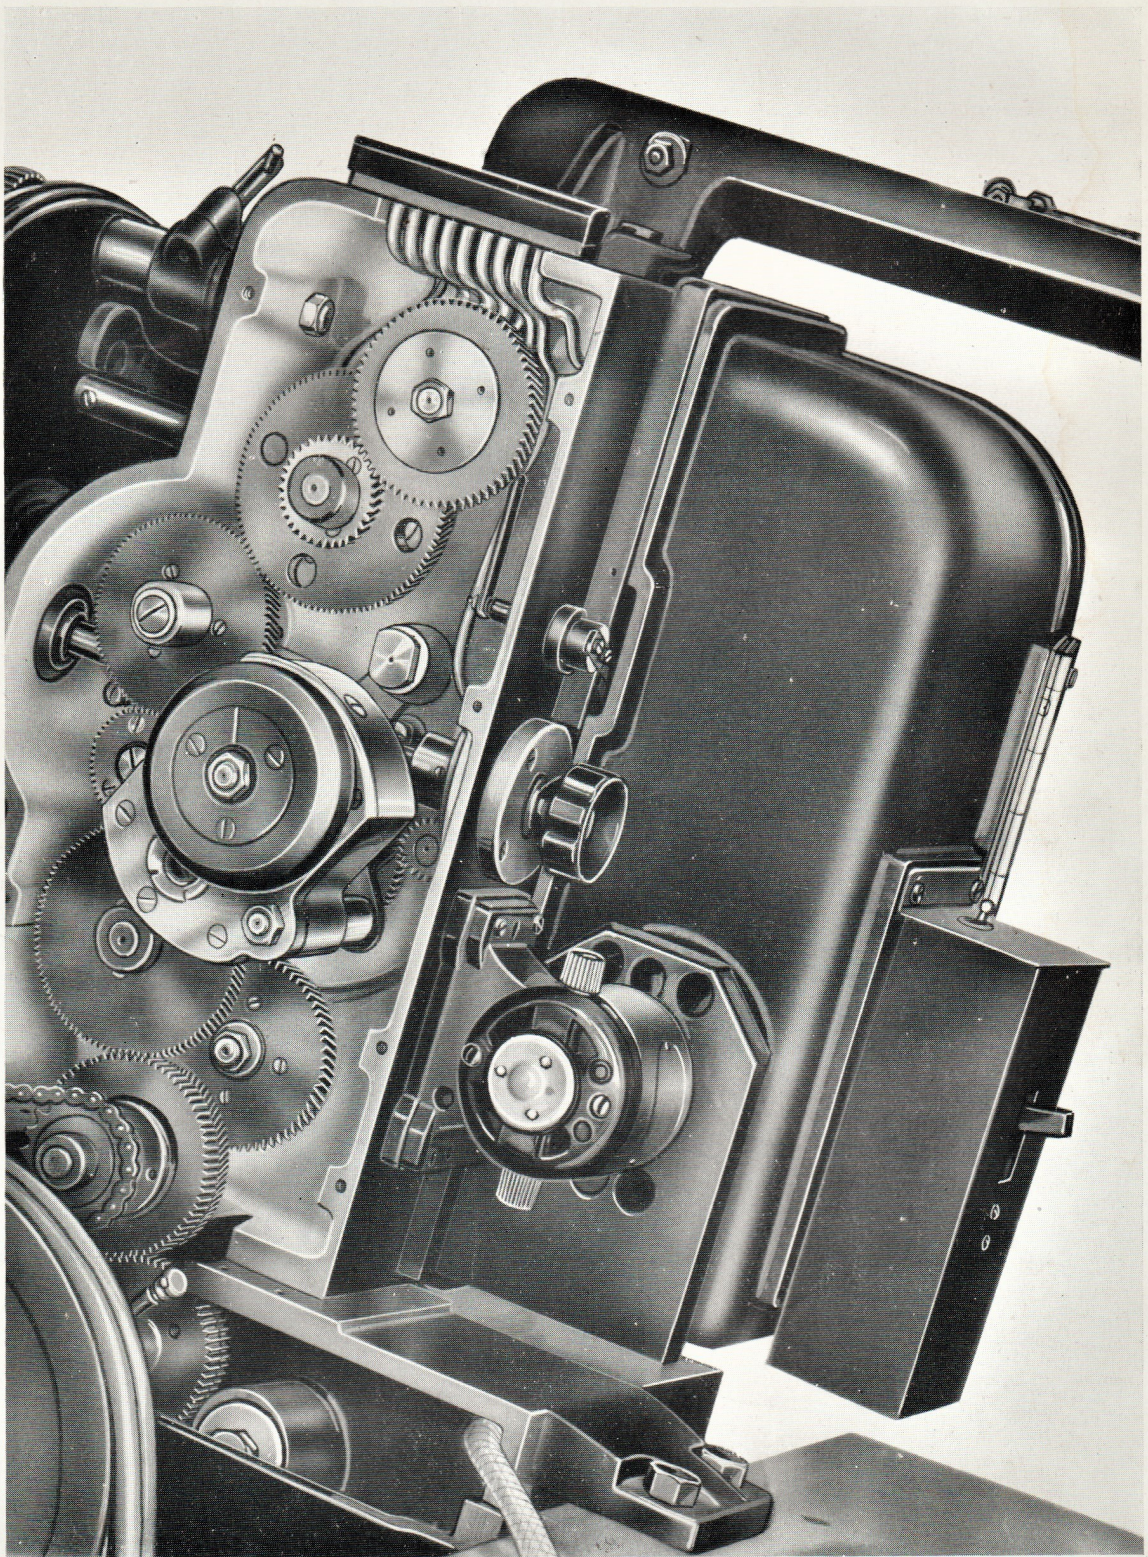

FIG. 3
2. Remove the rear cover of the machine, thus exposing the gear train and the intermittent unit as shown in Fig. 3. The intermittent unit is secured by a single $\frac{3}{4}$ " nut threaded on a post passing through a lug in the side of the cross box, and when this and the sprocket have been removed the unit can be withdrawn backwards out of the machine.